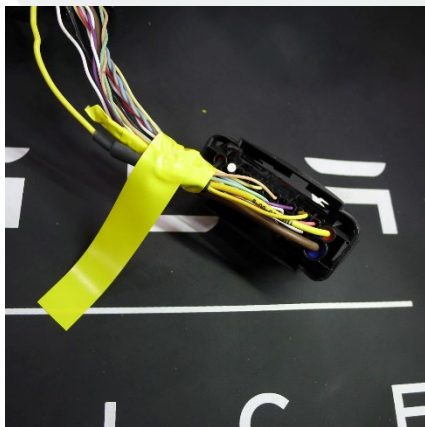
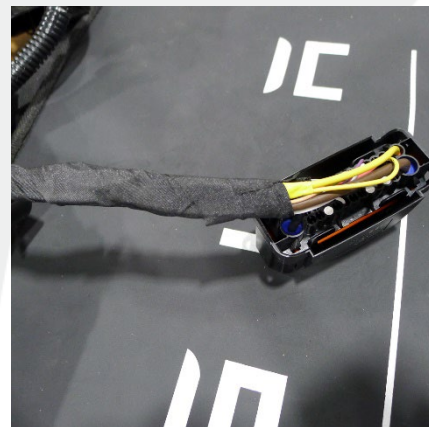

Figure 32
Figure 33
29. Bundle the excess jumper wire neatly into the electrical harness with yellow tape (Figure 32), and then wrap the harness with anti-abrasion tape (Figure 33).